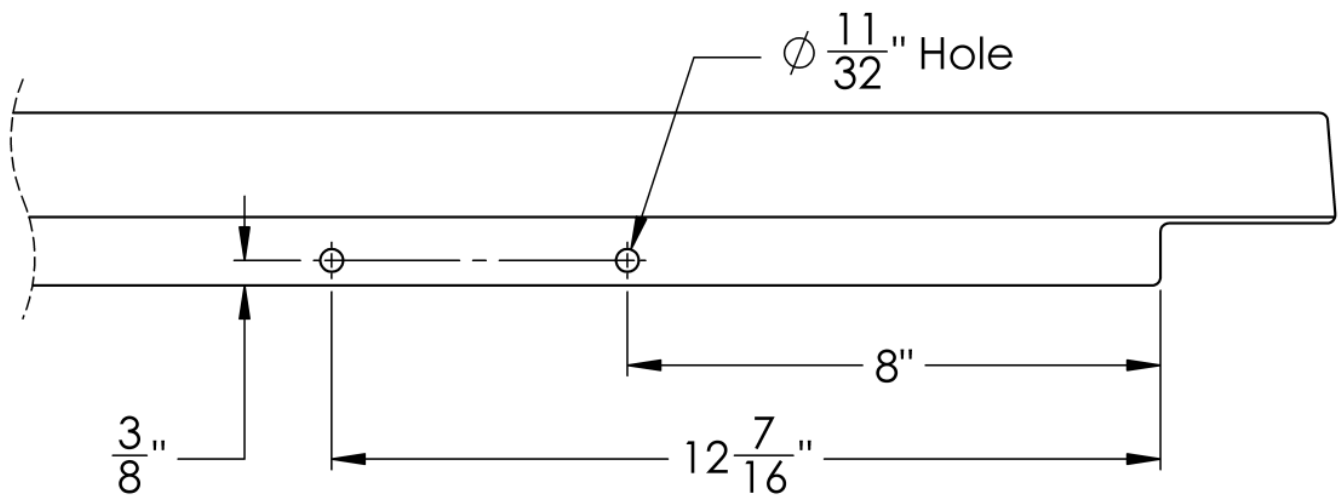

Figure 3: Right side hole locations
STEP 3: Using a tape measure and marking device, mark the two right side hole locations as shown in Figure 3.